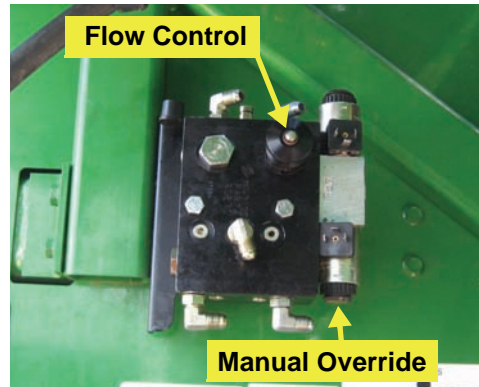

Figure 9: Manual override and flow control valve
- f. The coils on the automated steering block have manual push button overrides. Push either manual override to move the steering wheel all the way to one extreme. (Figure 9)